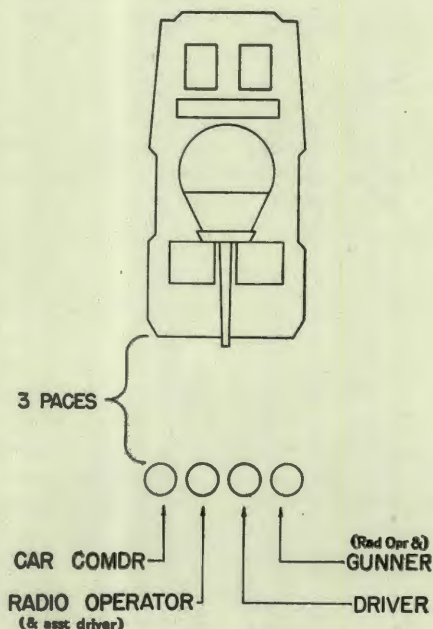

FIGURE 2.—Dismounted posts.
■ 4. FORMATIONS.—*a. Dismounted posts.*—The crew forms in one rank. (See fig. 2.) The car commander takes his post three paces in front of the right front wheel, facing to the front. The radio operator, driver, and gunner, in that order, take posts on the left of the car commander at close interval (4 inches).
■ 7. To FORM CREW.—*a. Crew being dismounted.*—At the command DISMOUNTED POSTS, FALL IN, crew takes dismounted posts (see par. 4a and fig. 2). In falling in, crew members dress automatically on the car commander at close interval and then come to attention without command.